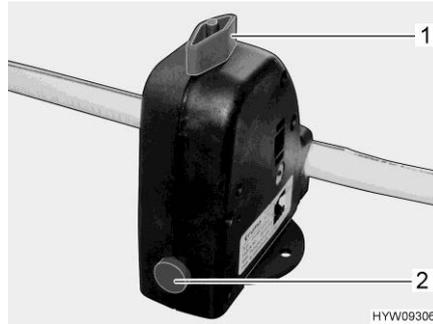

Fig. 211 Safety/drainage valve (boiler)
The boiler is equipped with a safety/drainage valve (Fig. 211). The safety/drainage valve prevents water in the boiler from freezing, when there is frost and the heater is not switched on.
- Close the safety/drainage valve. Turn the knob (Fig. 211,1) perpendicular to the safety/drainage valve and push the push button (Fig. 211,2) in.
- Open the safety/drainage valve. To do this turn the knob (Fig. 211,1) parallel to the safety/drainage valve. The push button (Fig. 211,2) jumps out. The boiler is drained to the outside by the safety/drainage valve.